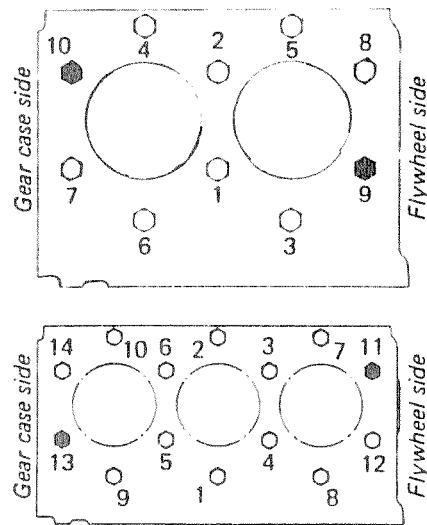

Fig. 22. Tightening of Cylinder Head Bolts
■ Tightening cylinder head capscrews (Fig. 22)